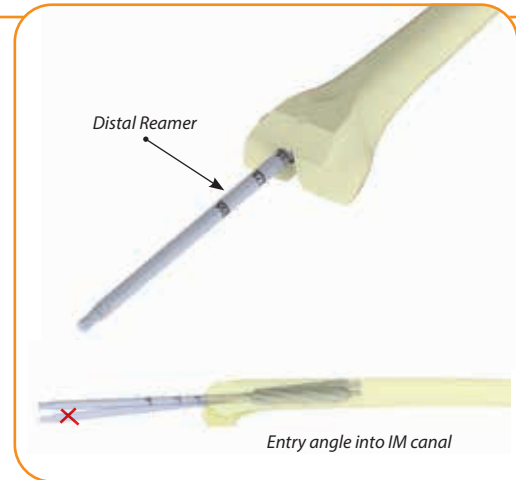

Figure F2: Reaming IM canal
Consult Table A at right to determine the reamer depth marking corresponding to the stem extension to be implanted. Ream the intramedullary (IM) canal with a sharp-tipped **distal reamer** (ø6.5mm or ø9mm). Ream angled anteriorly and until the appropriate depth marking reaches the distal surface of the femur (Fig. F2). (Be sure to reduce this reaming depth accordingly if the distal face will be augmented). Progressively increase reamer diameter in 0.5mm increments until the desired cortical bone contact is achieved. The ultimate **distal reamer** and **stem implant** diameters should match when uncemented. If cementing the stem, the **reamer** diameter should be 0.5mm or 1mm larger than that of the stem.